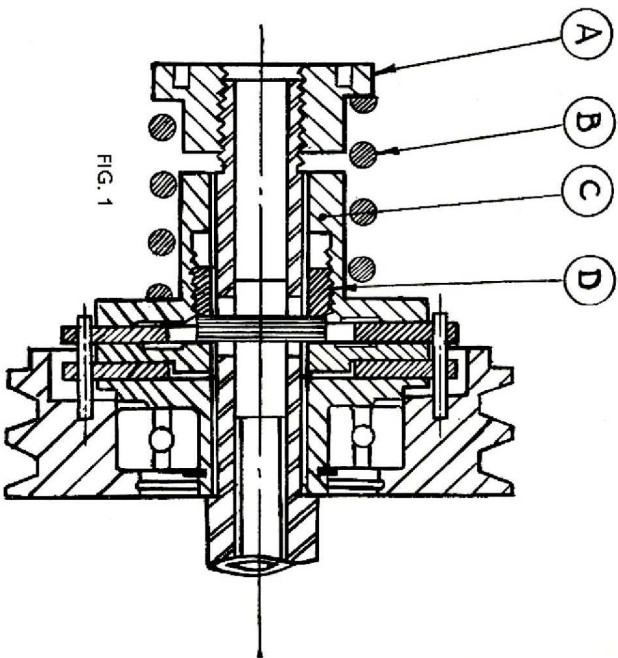

FIG. 1
- Constant operation of the clutch results eventually in wear on the driving faces (usually signified by clutch refusing to drive) and the following adjustment will be necessary:— (Fig. 1)